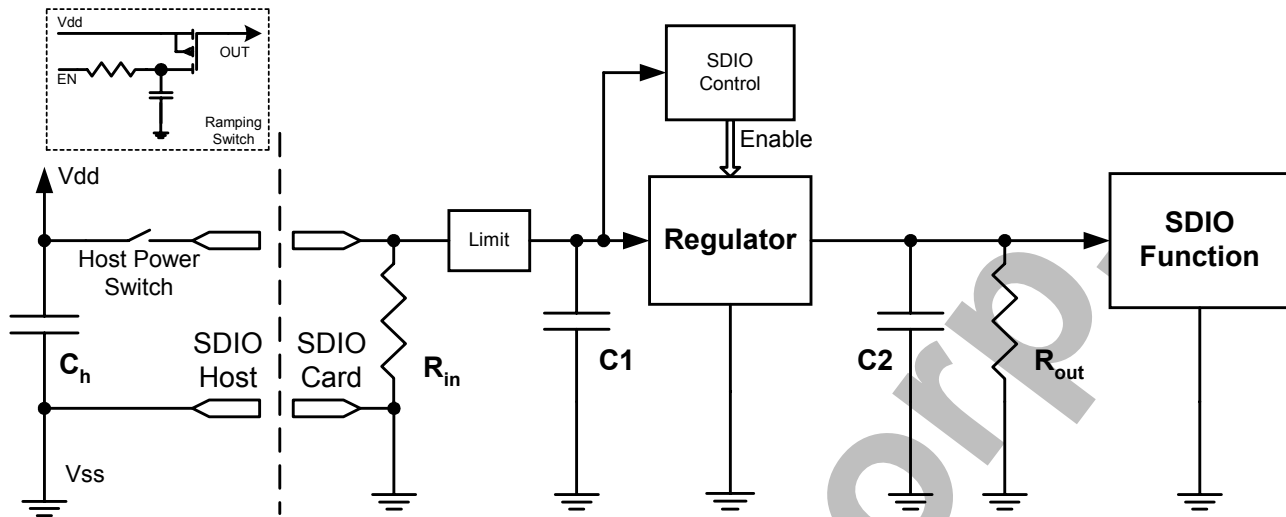

Figure 43 SDIO Inrush Current
1. The maximum initial load (i.e. upon power-up) that can be placed in an SDIO card is 10 μ F in parallel with 220 Ω . The 10 μ F capacitance represents all bypass capacitor(s) directly connected across the V_{dd} lines in the card common area or function(s) plus any capacitive effects visible through any regulators in the card that are enabled at power-up. This is represented in Figure 43 by C1. The 220 Ω resistance represents the maximum current (15 mA) drawn by the card during connect. This is shown as R_{in} .
3. The hosts' V_{dd} power lines shall be able to withstand a hot insertion of the above loads without causing an upset of the hosts' operation. The host may achieve this tolerance by many methods. For example, a soft-start reduces the inrush current to the SDIO card on power-up. Additionally, a large capacitor on the V_{dd} lines (shown as Ch in Figure 43) can supply the needed inrush current. Standard bypass methods should be used to minimize inductance and resistance between the bypass capacitors and the connectors to reduce droop. The bypass capacitors themselves should have a low dissipation factor to allow decoupling at higher frequencies.
2. Maximum capacitive load changes shall not exceed 10 μ F when an internal regulator is enabled or disabled. This is shown as C2 in Figure 43.
Figure 43 Shows the various components that contribute to inrush current. In this diagram, the host has an optional power switch so that the card is inserted into a socket without power applied (i.e. a cold socket). The initial load is defined by C_1 and R_{in} where C_1 is the sum of all capacitance from V_{dd} to ground on the input side of the regulator and R_{in} represents the DC load of the regulator and the SDIO control circuits. The Host can control the timing of the application of power to the SDIO card by using the optional host power switch. If the host does not include a power switch, then the inrush current will begin to flow once the card is inserted and contact is made to the V_{dd} and V_{ss} pins. In this diagram, C_1 has a maximum value of 10uF and the R_{in} equivalent resistance is 220Ω minimum. The host shall be designed so that the insertion of a SDIO card that meets the input capacitance and resistance values defined above shall not be damaged or have its operation disrupted (i.e. a reset). On card insertion or enabling of the host power switch, charge will rapidly flow from the charge host capacitor (C_H) to the discharged input capacitor on the card (C_1). The charge will transfer and the voltage on the host V_{dd} line will drop in proportion to the ratio of C_H to C_1 . If $C_H = C_1$, the resulting V_{dd} droop will be 50%. If the host must limit the V_{dd} droop to 10%, then C_H should be 10 times the value of C_1 (100uF). Alternately, the host may limit the inrush current by using a semiconductor switch such as a FET for the host power switch. This is shown in Figure 43 as the ramping switch. By using a RC network to drive the FET gate, the V_{dd} applied to the card will be a ramp, rather than a near-instantaneous step. This reduced rise time will greatly reduce the inrush current, allowing a smaller C_H value to be used.
If the design of a SDIO card requires a input capacitance (C_1) larger than the 10uF maximum value, then some sort of limit is required as shown as the Limit block in Figure 43. This limit function reduces the inrush current to a value equal to or less than the current inrush of a 10uF capacitor. This limit device could be a ramping switch similar to the one shown for the host.
Figure 43 also illustrates the use of a secondary voltage regulator (or switch) to power the SDIO function. Since the enabling of the power to the function may cause a secondary current surge to charge C_2 and since the host may not have control of the timing of this secondary surge, it is entirely the responsibility of the SDIO card to limit the effect on the host V_{dd} due to these secondary surges. Again, a ramping type switch is a possible solution as is a “soft start” regulator. The actual design is left to the SDIO card maker.